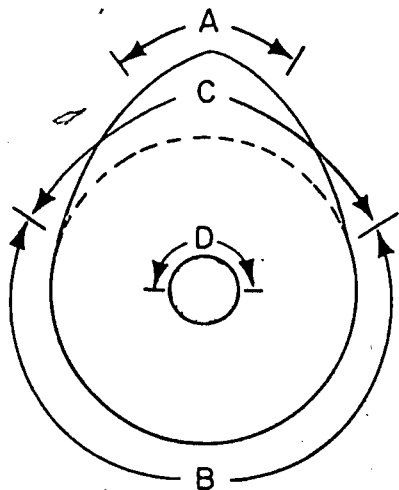

Figure 6A
- 6-13. Which letter of figure 6A refers to the part of a cam that is known as the cam flat?